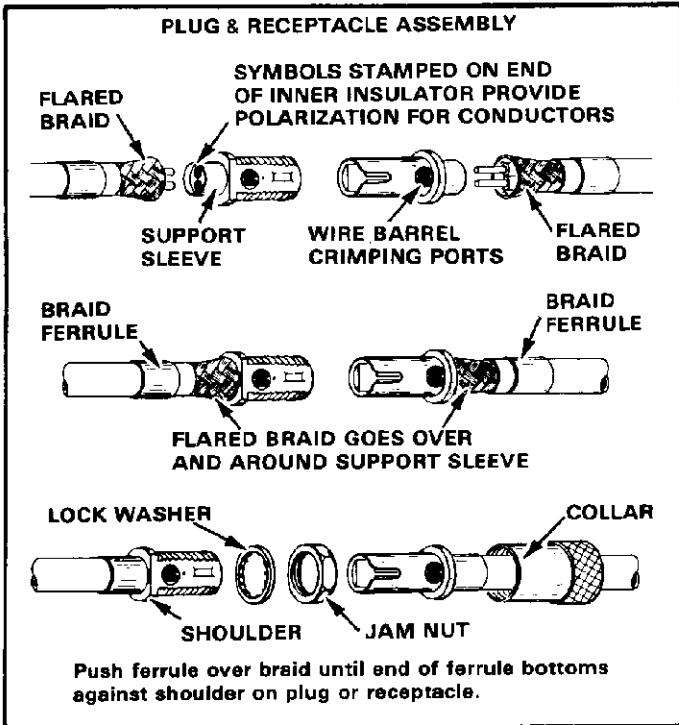

Fig. 3
**NOTE** Be certain that collar has been placed on cable if plug is to be terminated to cable. See Figure 3.
1. Holding the cable, rotate the conductors to flare braid as shown in Figure 3.
3. Slide braid ferrule forward and over the braid until the ferrule bottoms against the shoulder on the connector. See Figure 3.